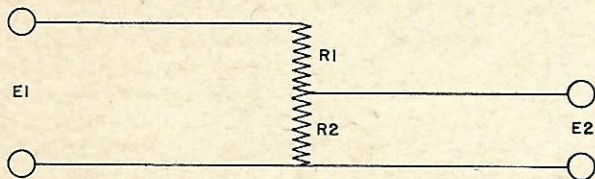

Figure 7.3—Resistive Divider
7.3 **Resistive Dividers**—Since the input impedance of the Oscillograph is relatively high for most practical applications, external dividing networks may be used for calibration and voltage measurements. Figure 7.3 shows a resistive divider consisting of R1 and R2. The value of R2 must be kept low with respect to the input impedance of the oscillograph or the shunting effect of this impedance must be considered when proportioning the divider. When R2 is less than 10,000 ohms the shunting effect of the input impedance can be ignored. Non-inductive resistors of sufficient voltage ratings should always be used. The following relations between E1 and E2 will be used when proportioning dividers for calibration and voltage measurement.